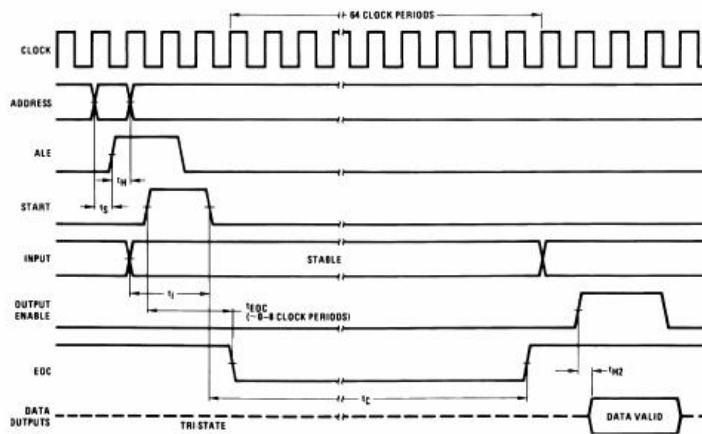

FIGURE 3. ADC0808/ADC0809 Timing Diagram
Once EOC does go high this signals the interface logic that the data resulting from the conversion is ready to be read. The output enable (OE) is then raised high. This enables the TRI-STATE outputs, allowing the data to be read. Figure 3 shows the timing diagram.